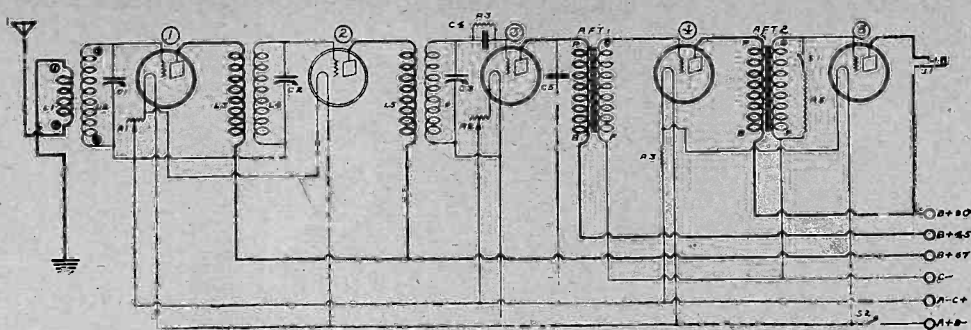

FIG. 346
(1)—The primary consists of 10 turns. The secondary consists of 65 turns. Use No. 22 double cotton covered wire. (2)—Fig. 346 shows the electrical diagram of a set along the lines as you described. The audio portion is different. However, by following this description, you may obtain the wiring directions of the resistance AF stages. The wiring description of the RF and detector portion of the set can be obtained from the answer to Joyce Lucke's query. The plate post of the detector or third tube is brought to one terminal of a .1 megohm fixed resistor, and to one terminal of a .001 mfd. fixed condenser, C5. The other terminal of the resistance is brought to the B plus 67 1/2-volt post. The P post of this same socket also is brought to the one terminal of a .25 mfd. fixed condenser. The other terminal of this condenser is brought to one terminal of a .1 megohm resistor and to the grid post on the fourth socket. The other terminal of this resistance is brought to the A minus post on the strip. The plate post on the fourth socket is brought to one terminal of a .1 megohm fixed resistor and to one terminal of a .25 mfd. fixed condenser. The other terminal of this resistor is brought to the B plus 135-volt post. The other terminal of the .25 mfd. fixed condenser is brought to the grid post on the fifth socket and to one terminal of a .5 megohm fixed resistor. The other terminal of the fixed resistor is brought to the A minus post on the strip. The plate post on this fifth socket is brought to a terminal of a .1 megohm fixed resistor and a terminal of another .25 mfd. fixed condenser. The other terminal of this fixed resistor goes to the B plus 135-volt post. The other terminal of the fixed condenser goes to the grid post on the last socket and to a terminal of a .25 megohm fixed resistor. The other terminal of this resistor is brought to the minus post of a 6-volt C battery. The plate post of this socket is brought to the top terminal of a single circuit jack. The bottom terminal of this jack is brought to the B plus 135-volt post. Now all the F plus, as well as the F minus posts are connected together. The common negative terminal is brought to a terminal of a 3/4-ampere ballast resistor. The other terminal of this ballast resistor is brought to the A minus post on the strip. The plus terminals are brought to one terminal of the switch S2. The other terminal of this switch is brought to the A plus, B minus post on the strip.
Fig. 346 shows the electrical diagram of this receiver. The primaries, L1, L3 and L5 consist of 10 turns. The secondaries, L2, L4 and L6, consists of 65 turns wound on a form 2 3/4" in diameter. Fifteen dowel sticks are employed. These are 1/4" in diameter. The under two and over two method of winding is employed. No. 22 double cotton covered wire is used. C1, C2 and C3 are .0003 mfd. variable condensers. If you wish to use .0005 mfd. variable condensers, then the secondaries should consist of 55 turns. R1 is a 10 ohm rheostat. R2 is a 15 ohm rheostat. R3 is a 1/2 ampere ballast resistor. R5 is a high resistance rheostat (0 to 5 megohms). C4 is a .00025 mfd. fixed condenser. R3 is a 2 megohm grid leak. C5 is a .001 mfd. fixed condenser. AFT1 and AFT2 are both low ratio type audio frequency transformers. S1 is a single throw, single pole, or simple filament switch. S2 is a filament control switch. J1 is a single circuit jack. The radio frequency transformers may be placed on the end plates of the condensers or on angle irons mounted directly on the baseboard. When mounted, the second RFT should be mounted erect, with the windings of the other two RFT bending away from each other, (V shape formation). The primary windings may be wound in the regular fashion, e. g., 1/4 or 1/8" separation between the primary and the secondary windings, or 27 turns of the secondary are first wound, then 10 turns of the primary winding and 10 turns of the secondary winding are wound. This is followed by the remaining 28 turns of the secondary winding. A 7x24" panel can be used. The rheostat can be placed in between the condensers. The switches can be placed at the extreme bottom portions of the panel. The single circuit jack can be placed underneath the dial on the shaft of the second variable condenser. Now as to the wiring. The beginning of the primary winding, indicated by 1, in L1, is brought to the ground post. The end of this winding, indicated by 2, is brought to the antenna post. The beginning of the secondary winding, indicated by 3 in L2, is brought to the grid post on socket 1 and to the stationary plates of the variable condenser, C1. The end of this winding, 4, is brought to the rotary plates of C1 and to the arm of R1, which incidentally also goes to the A minus C plus post on the strip. The beginning of the primary winding, L3, is brought to the plate post on the first socket. The end of this winding is brought to the B plus